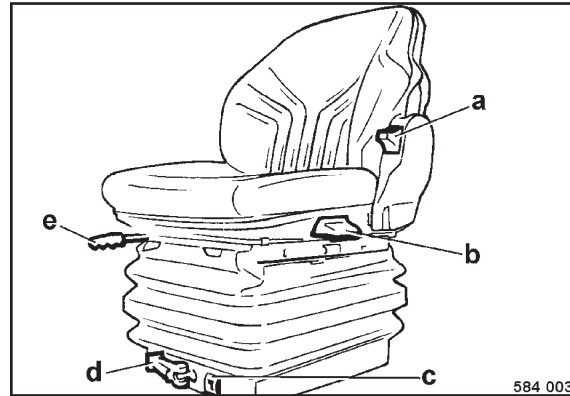

Fig. 58
- To adjust the seat in longitudinal direction disengage lever e (Fig. 58) upwards and push the seat forward or back.